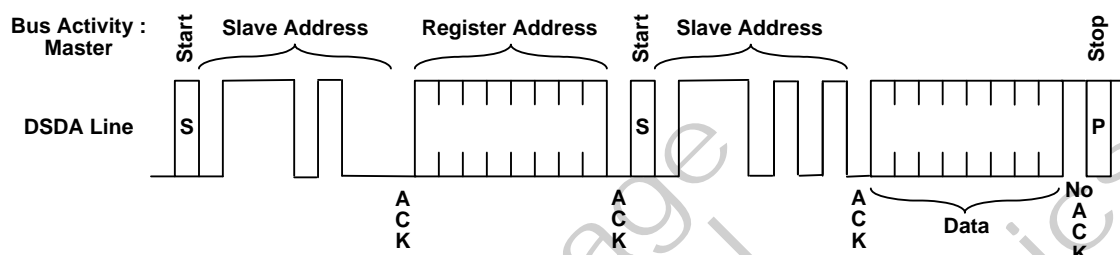
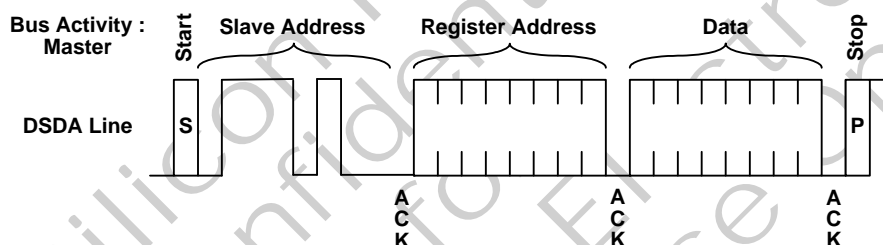
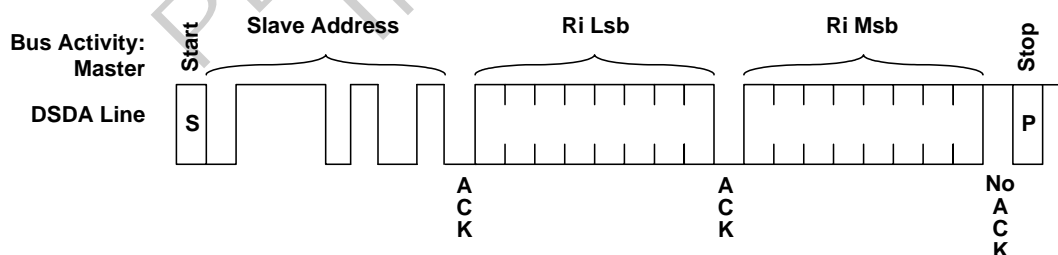

Figure 32. I2C Byte Read
Figure 33. I2C Byte Write
Figure 34. Short Read Sequence
The HDCP protocol requires values to be exchanged between the video transmitter and video receiver. These values are exchanged over the DDC channel of the DVI interface. The E-DDC channel follows the I2C serial protocol. In an SiI9013 HDMI Receiver design, the SiI9013 HDMI Receiver is the video receiver and will have a connection to the E-DDC bus with a slave address of 0x74. The I2C read operation is shown in Figure 32, and the write operation in Figure 33.
Multiple bytes may be transferred in each transaction, regardless of whether a read or a write. The operations will be similar to those in Figure 32 and Figure 33 except that there will be more than one data phase. An ACK follows each byte, except the last byte in a read operation. Byte addresses increment, with the least significant byte transferred first, and the most significant byte last. See the I2C specification for more information.
There is also a Short Read format, designed to improve the efficiency of Ri register reads (which must be done every two seconds while encryption is enabled). This transaction is shown in Figure 34. Note that there is no register address phase (only the slave address phase), since the register address is reset to 0x08 (Ri) after a hardware or software reset, and after the STOP condition on any preceding I2C transaction.
The SiI9013 HDMI Receiver has a second I2C port accessible only to the controller in the display device. It is separate from the E-DDC bus. The receiver is a slave device which responds to two seven-bit binary I2C device addresses, which are selected with the CI2CA pin (see page 10). Two device addresses are used to accommodate the long list of registers in the SiI9013 HDMI Receiver, since I2C can access only 256 registers at any one device address. This I2C interface only supports the read operation in Figure 32 and the write operation in Figure 33. It does not support the short read operation shown in Figure 34.
**Note:** The Slave Address fields shown in Figure 32 through Figure 34 are shown for the DDC port (address 0x74) and will be different on the local I2C port. Also, the I2C data pin for the local I2C bus is CSDA, instead of the DSDA pin shown in these figures.